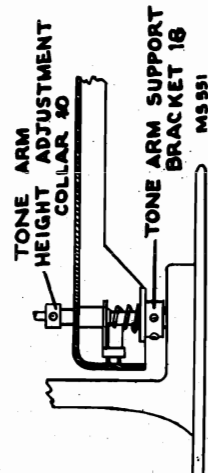
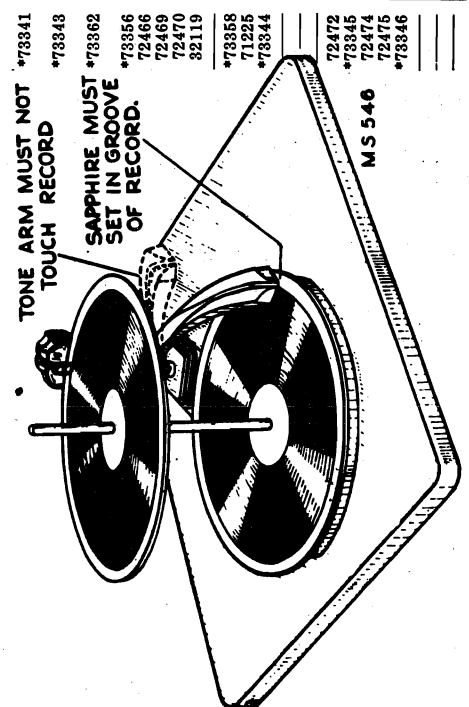

FIG. 9
FIG. 5
The tone arm height should be so adjusted as to permit the sapphire to engage and ride in the grooves of one record placed on the turntable, but at the same time prevent the tone arm from touching the records on the supports while the mechanism is going through cycle, fig. 5.
2. With the pickup near the edge of the record, loosen the set screw, holding collar 10, fig. 9, and moving it up or down on shaft 47, so as to have the conditions indicated in sketch, fig. 5.